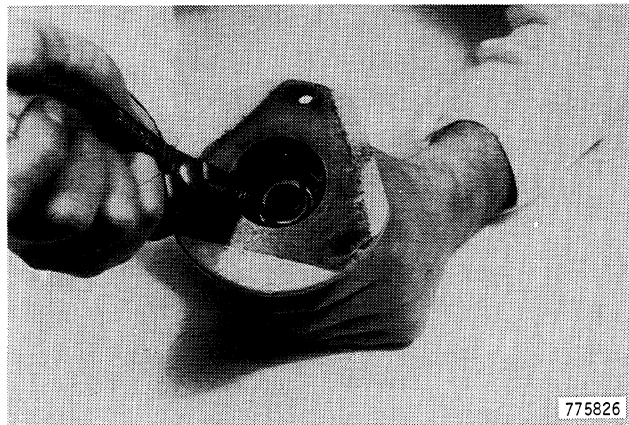

Figure 80
1. Remove the snap ring from the drive gear, Figure 80.